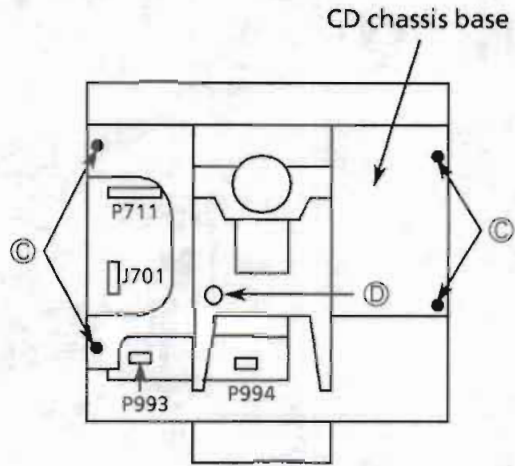

Figure 2 Top view
3. Disconnect the connector P711 and the flat wire J701 (Figure 2).
4. Remove the 4 screws ③ fixing the chassis base.
3. Disconnect connector P994 and flat wire P993 (Figure 2).